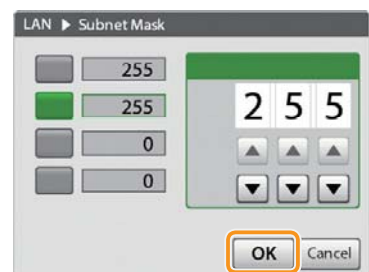

Figure 3-115
5. Tap [OK] to complete the setting. (Figure 3-115)